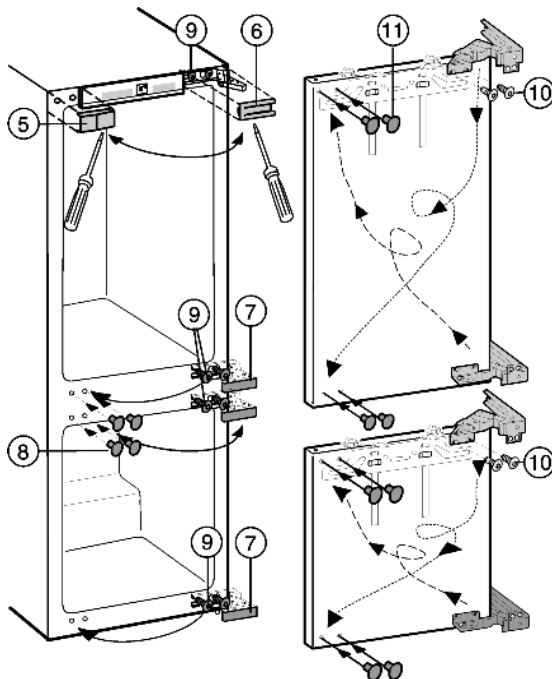

Fig. 4
- ▶ Lift off the covers Fig. 4 (5,6,7,8) forwards using a flat-blade screwdriver.
- ▶ Loosen the top and bottom screws Fig. 4 (9) on the appliance body, without removing them.
- ▶ Transfer the screws Fig. 4 (9) to the opposite side and screw them in a little.
- ▶ Undo the screws Fig. 4 (10) and change over the hinges diagonally.
The screws Fig. 4 (10) are self-tapping: use a cordless screwdriver.
- ▶ Place plugs Fig. 4 (11) in the now unused fastening holes.
- ▶ Attach the doors to the prefitted screws Fig. 4 (9) and tighten the screws.
- ▶ Re-fit all the covers Fig. 4 (5,6,7,8).